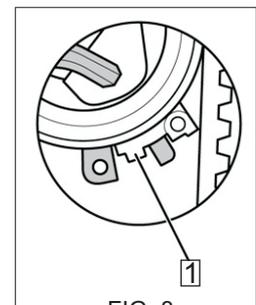

FIG. 8
- Loosen tensioner nut and turn the tensioner until mobile indicator (1) [FIG. 8] is in the middle.